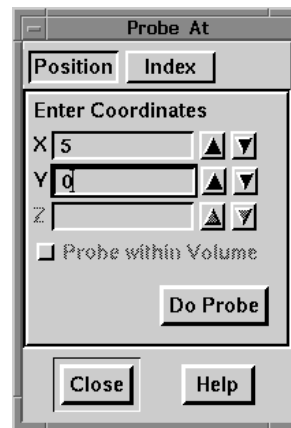

Figure 26-2. The Position page of the Probe At dialog.
1. Launch the Probe At dialog. The Probe At dialog appears, as in Figure 26-2, ready for you to enter X-, Y-, and Z-coordinates.